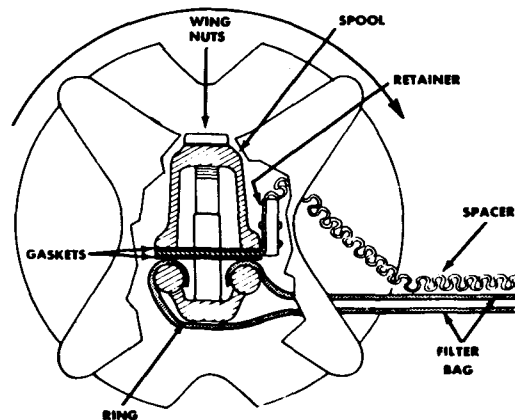

Fig. 5-3. Assembling full flow filter bag and spacer mat
5. Install a new filter bag as shown in Fig. 5-3.